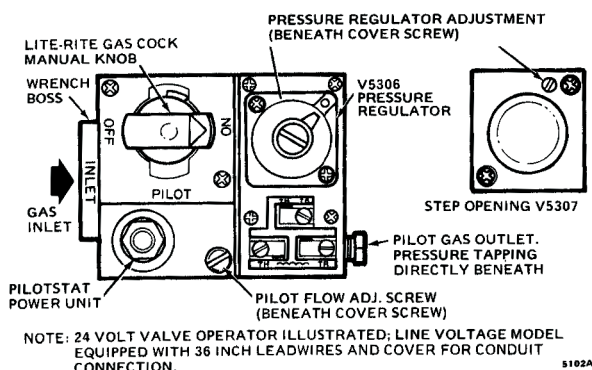

Fig. 7. Top view combination gas control V5306 pressure regulator and valve operator installed. V5307 shown at right. V5308 and V5309 shown in Fig. 8 and 9.
1. Check input to main burner by clocking gas meter or by using a pressure gauge (manometer) connected to downstream tapping (Fig. 7). The standard natural gas model is factory-set at 3.5 in. wc [0.9 kPa] outlet pressure (nominal), but may vary from 3.2 to 3.8 in. wc [0.8 to 0.94 kPa]. Input can be adjusted from 3 to 5 in. wc [0.74 to 1.2 kPa]. The standard LP gas model is set at 11 in. wc [2.7 kPa] (nominal), but may vary from 10.2 to 11.8 in. wc [2.5 to 2.9 kPa]. Input can be adjusted from 8 to 12 in. wc [2 to 3 kPa]. If adjustment is required, proceed with step 2.
2. Remove cover screw (Fig. 7). Using screwdriver, turn adjusting screw clockwise  to increase or counterclockwise  to decrease gas pressure to burner.
1. With main burner operating, check input by clocking gas meter, or check burner manifold pressure using pressure gauge (manometer) connected to downstream pressure tapping (Fig. 7).
2. If adjustment is required, remove cover plug (Fig. 7). Using a small screwdriver, turn adjusting screw clockwise  to increase or counterclockwise  to decrease gas pressure to burner. Replace cover plug.
- a. With burner operating check gas input by clocking gas meter, or check burner manifold pressure using pressure gauge (manometer) connected to downstream pressure tapping (Fig. 7).
- a. With burner operating, check gas input by clocking gas meter, or check burner manifold pressure using pressure gauge (manometer) connected to downstream pressure tapping (Fig. 7).